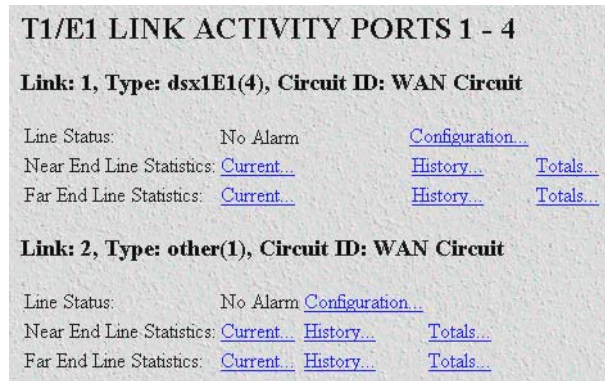

Figure 35. T1/E1 Link Activity Ports 1 – 4 page.
- View Link 1* corresponds to the first WAN circuit on the T-DAC. To the right of *View Links 1-4* click the *View Links...* hyperlink to open the T1/E1 LINK ACTIVITY PORTS 1 – 4 page (see figure 35).